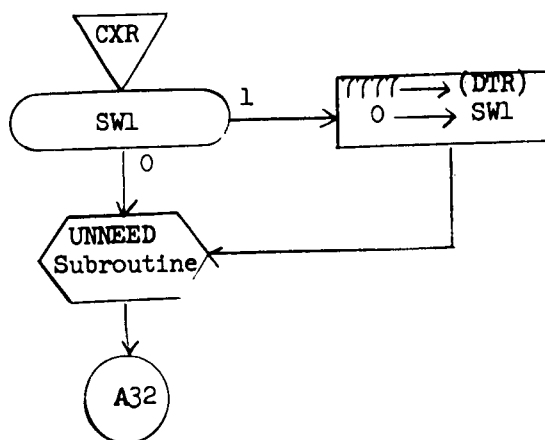

Figure 7.12 CXR
7.2.3.9 CXR RUN COMMAND (Figure 7.12)